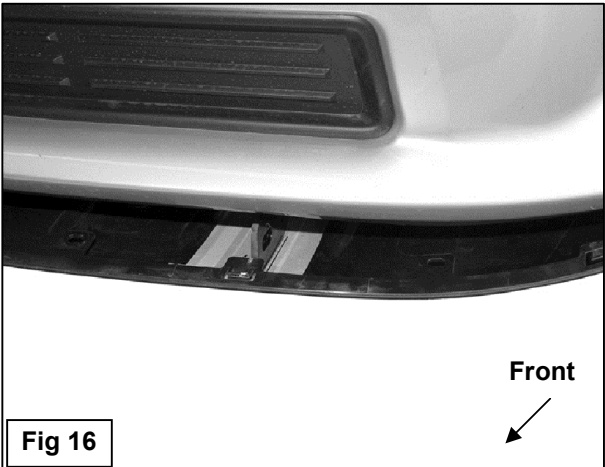
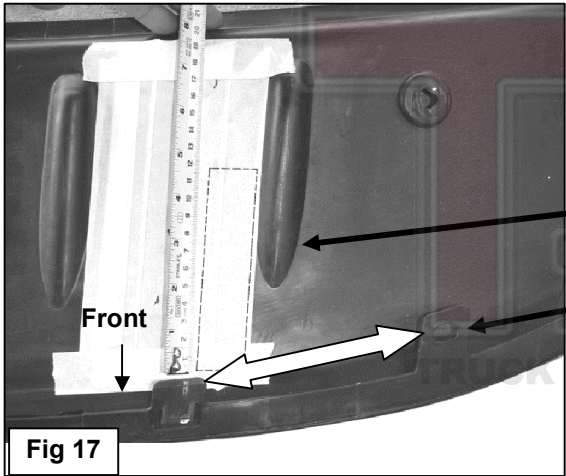

Fig 16
Fig 17
11. Next, hold the splash guard up to the bumper cover and align it with the mounting points. Mark the location of the Bull Bar Brackets and Mounting Brackets onto the back of the splash guard, **(Figure 16)**. Cut an approximately 1.5" wide by 4.5" slot in the splash guard as pictured in **Figure 17**. **NOTE:** The size of the box is an estimate only and may vary due to different factory designs for the splash guards and front bumper covers. Also, additional cutting may be required to clear the Support Bracket on vehicles equipped with tow hooks. **IMPORTANT:** To maintain the integrity of the splash guard, do not cut the slot any larger than necessary. Do not cut through the front or back edges of the cover, **(Figure 17)**. Make several small cuts first and check the fit often for a clean installation.